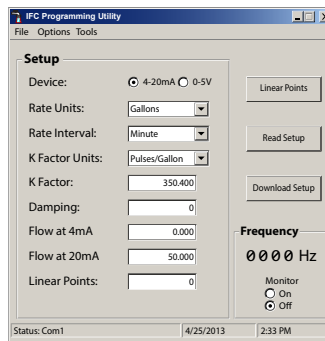

Figure 9: IFC programming screen
4. Start the IFC programming software. The first screen should appear as in *Figure 9*.